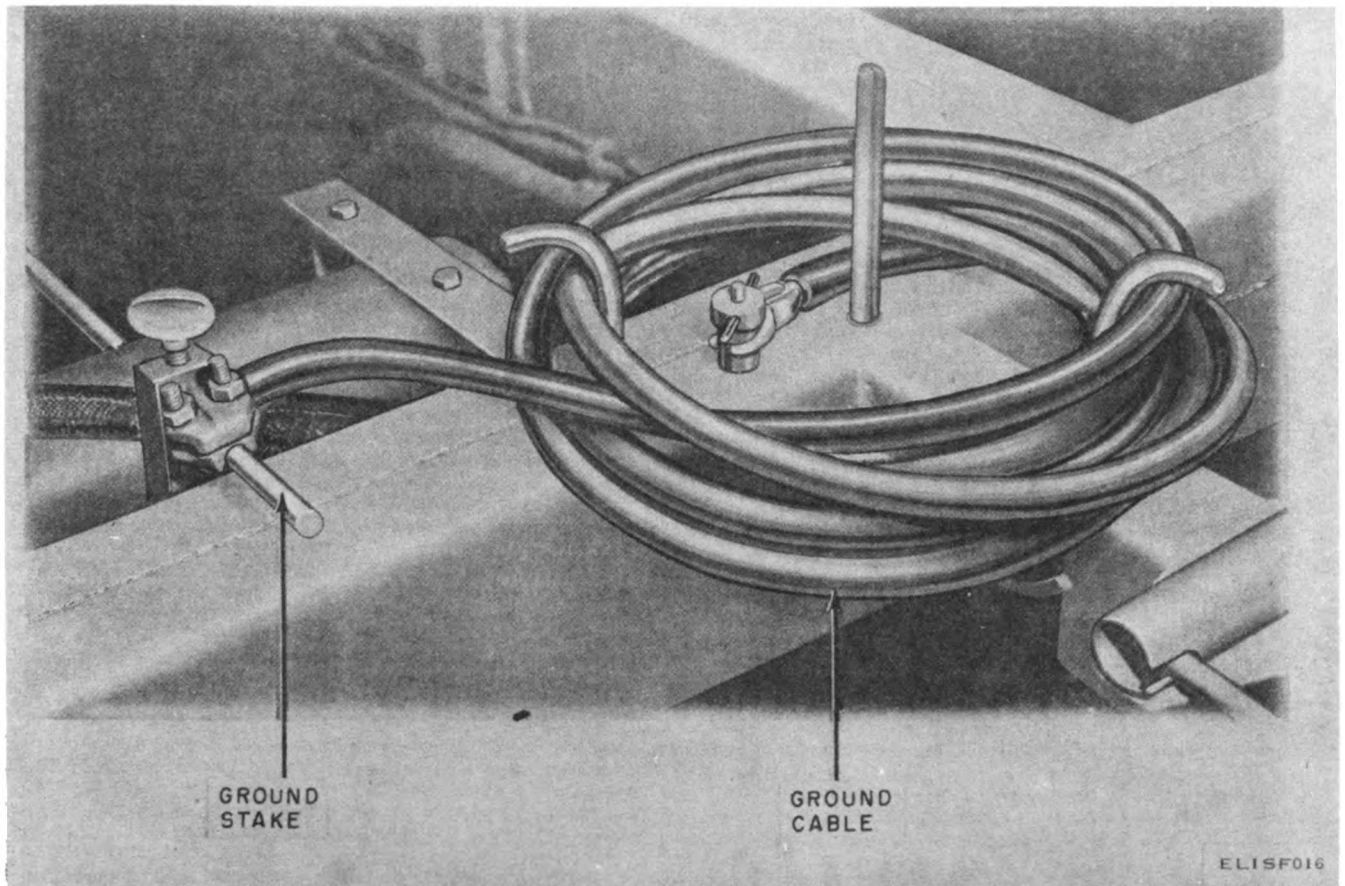

Figure 2-8. Ground stake and cable.
o. Remove the ground stake (fig. 2-8) from the radar trailer by opening the clamp and removing the ground stake from the sleeve attached to the frame. Uncoil the ground cable. Drive the ground stake at least half its length into the ground. Make certain that the ground cable is properly secured and makes good electrical contact at both the radar trailer chassis and the ground stake.